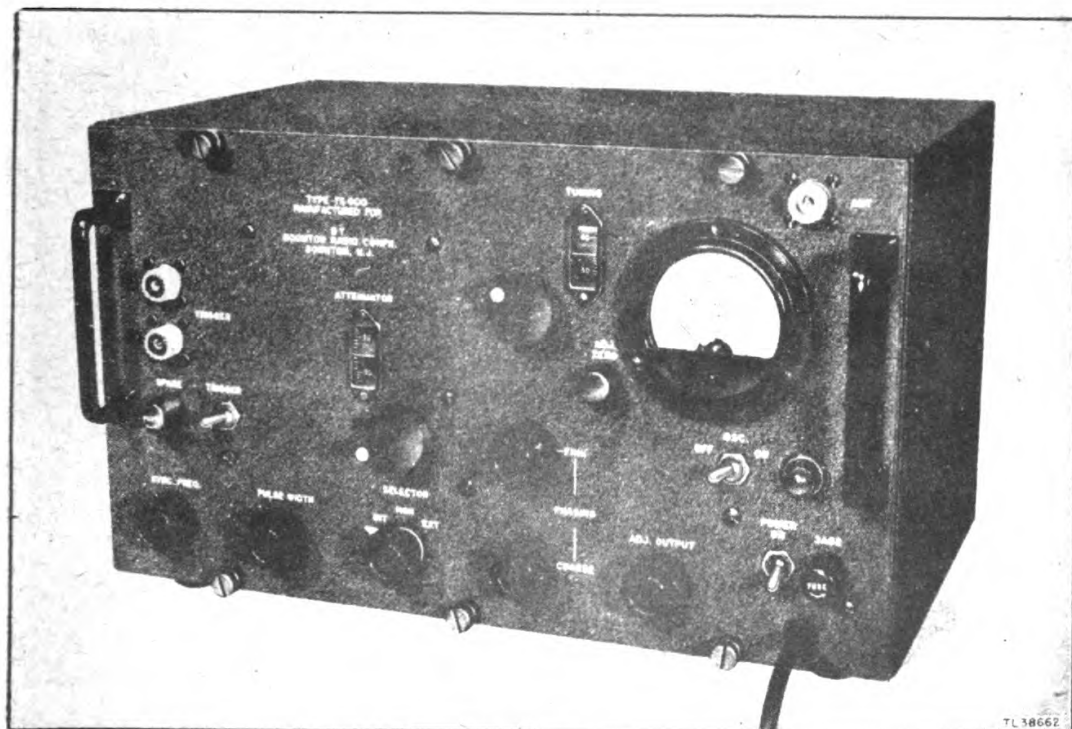

Figure 6. Signal Generator TS-155B/UP, front view.
9. SIGNAL GENERATOR TS-155B/UP (fig. 6).